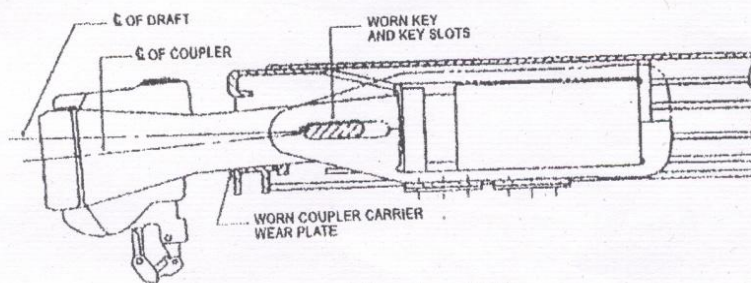

Fig. 2.1 Drooping coupler
2.2.1 A drooping coupler is an indication of worn, broken, or missing components that act in a vertical direction, such as coupler shank, coupler wear plate, coupler support plate, draft key, coupler key slot, yoke key slot, and the striker key slot (See Fig.2.1)